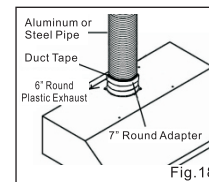

Fig.18
- Apply with aluminum or steel pipe to connect the plastic exhaust duct on the hood. Use duct tape to make all joints secure and ensure air tight. (Fig.18 )